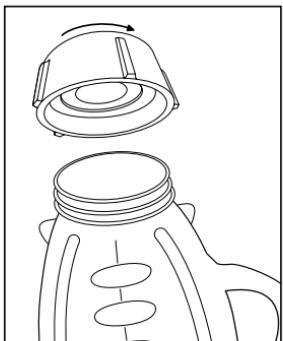

FIGURE 3
4. Place threaded jar nut or threaded jar skirt over blade and jar. (*Note: If there are slots on top of collar, line them up with notches on jar.*) Place the threaded jar nut or threaded jar skirt on jar and turn it clockwise to tighten. (*Figure 3*)